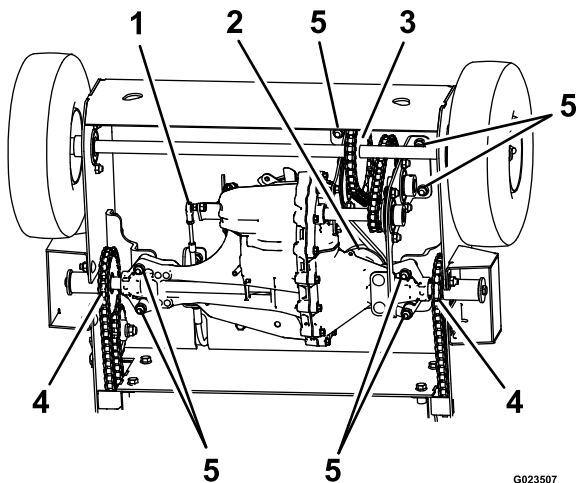

Figure 31
6. Remove the transmission from the machine (Figure 31).